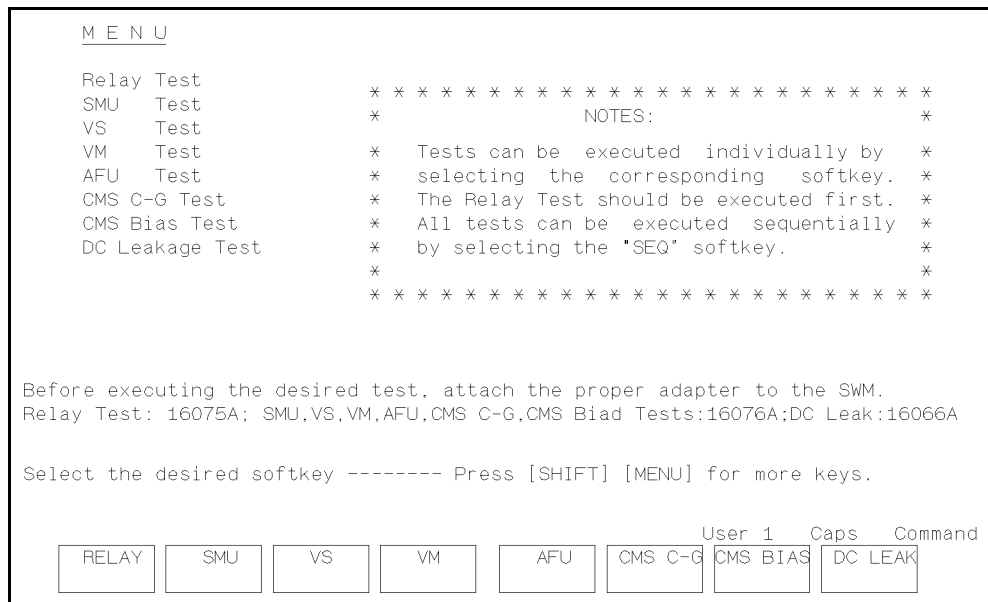

Figure 4-7. DIAG Menu Page
2. Selecting the **Start** softkey displays the DIAG MENU page, similar to that shown in Figure 4-7. On this page, 10 softkeys are available as User 1 and User 2 mode softkeys to let you execute the desired test(s).
From the DIAG Menu page in Figure 4-7, you can execute DIAG tests individually by selecting the softkey for the desired test, or you can execute all tests sequentially, in the order shown on the menu page, by pressing **(Shift) (Menu)**, then by selecting the **SEQ** softkey.